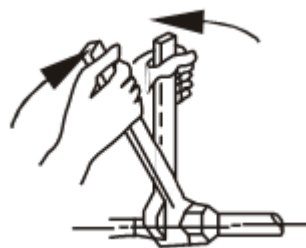

Figure 6
- 3.Put the connecting tubing at the proper position, wrench the nuts with hands, then fasten it with a wrench. (Refer to Figure 6)